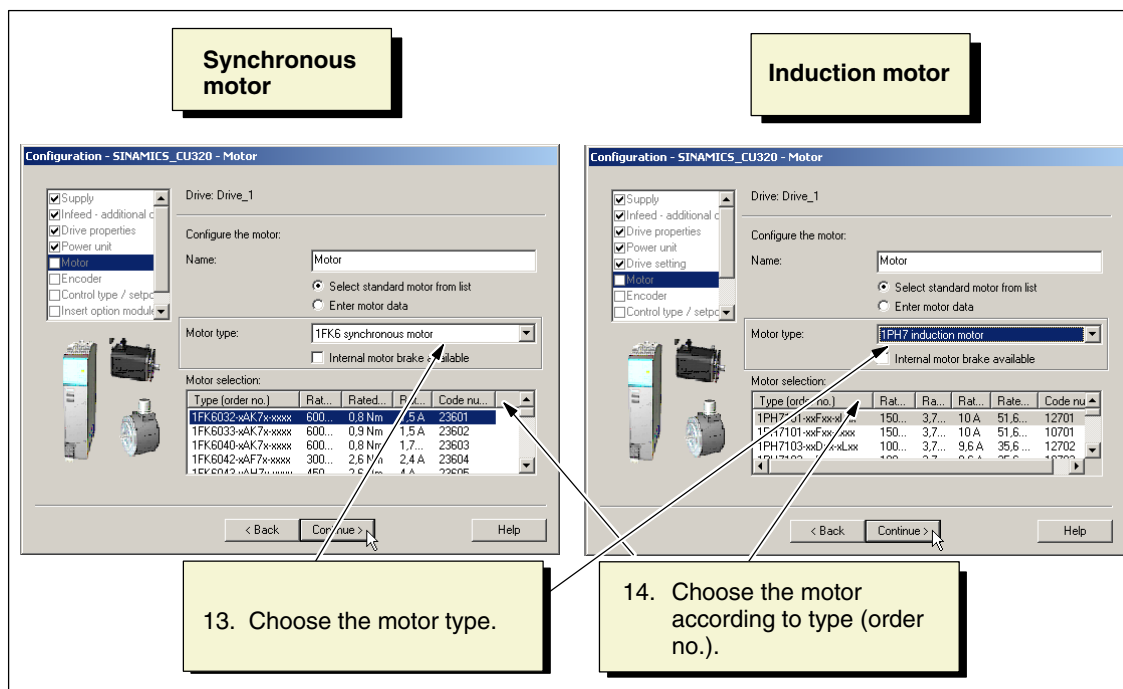

Fig. 3-20 Motor configuration
12. Choose **Continue** > to select the motor (see Fig. 3-20).